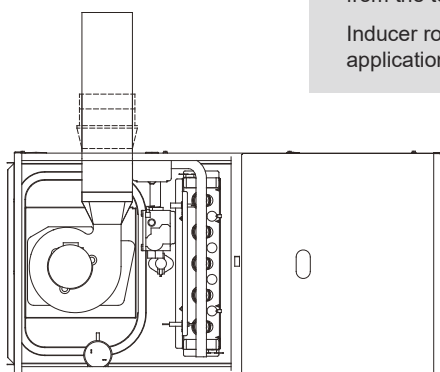

Fig. 6-10 Horizontal Left Application-Vent Elbow Up Pressure Switch Relocated
- 2) Horizontal Left Fig. 6-10